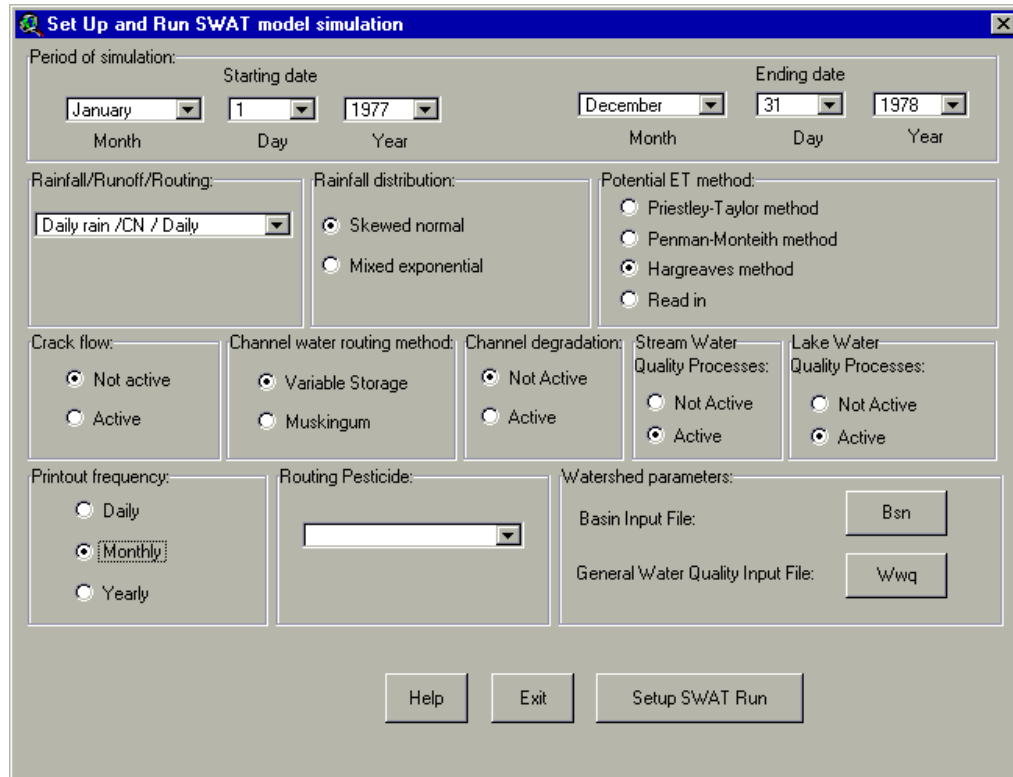

Figure 15.42
2. A dialog box will be brought up (Figure 15.42).